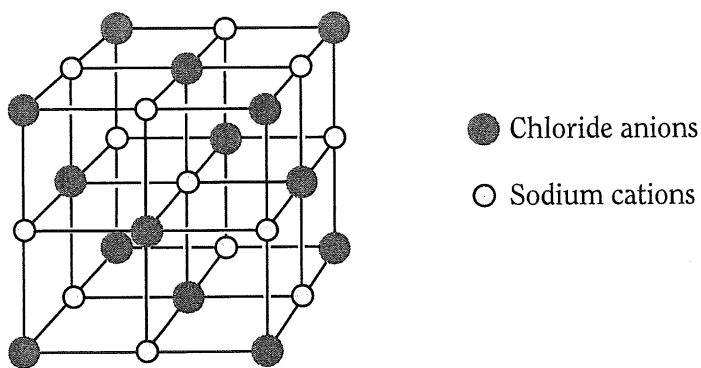

Figure 1. Crystal Structure of Sodium Chloride.
The term *ionic bonding* is used to describe the attractive forces between oppositely charged ions in an ionic compound. An ionic compound is formed when a metal reacts with a non-metal to form positively charged cations and negatively charged anions, respectively. The oppositely charged ions arrange themselves in a tightly packed, extended three-dimensional structure called a crystal lattice (see Figure 1). The net attractive forces between oppositely charged ions in the crystal structure are called ionic bonds.
1. A student wanted to illustrate the structure of magnesium chloride and decided simply to replace the Na^+ ions in Figure 1 with Mg^{2+} ions. What would be wrong with the resulting picture?